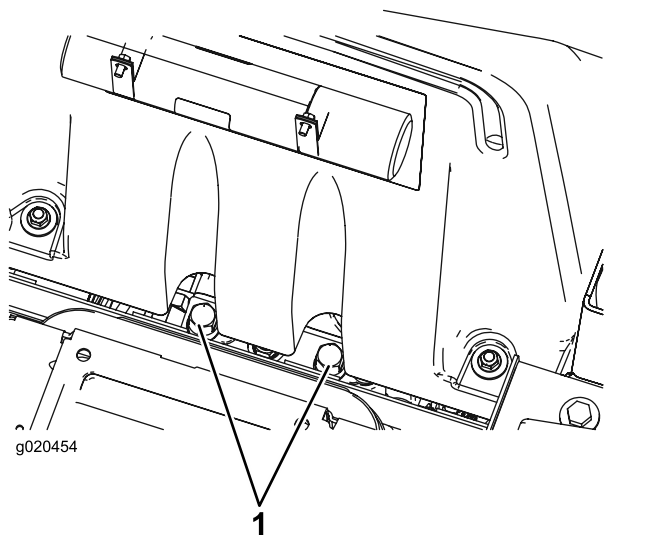

Figure 33
1. Raise the seat. The bypass valves are located below the front of the fuel tank (Figure 33).